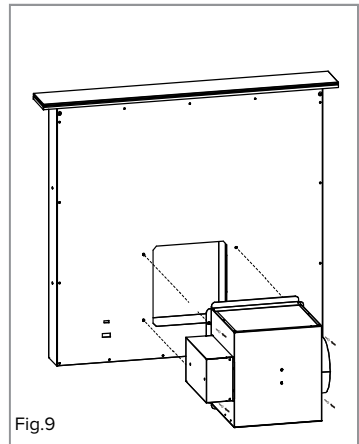

Fig.9
8) Fit the motor housing to the body of the extractor with the screws provided as shown in Fig.9